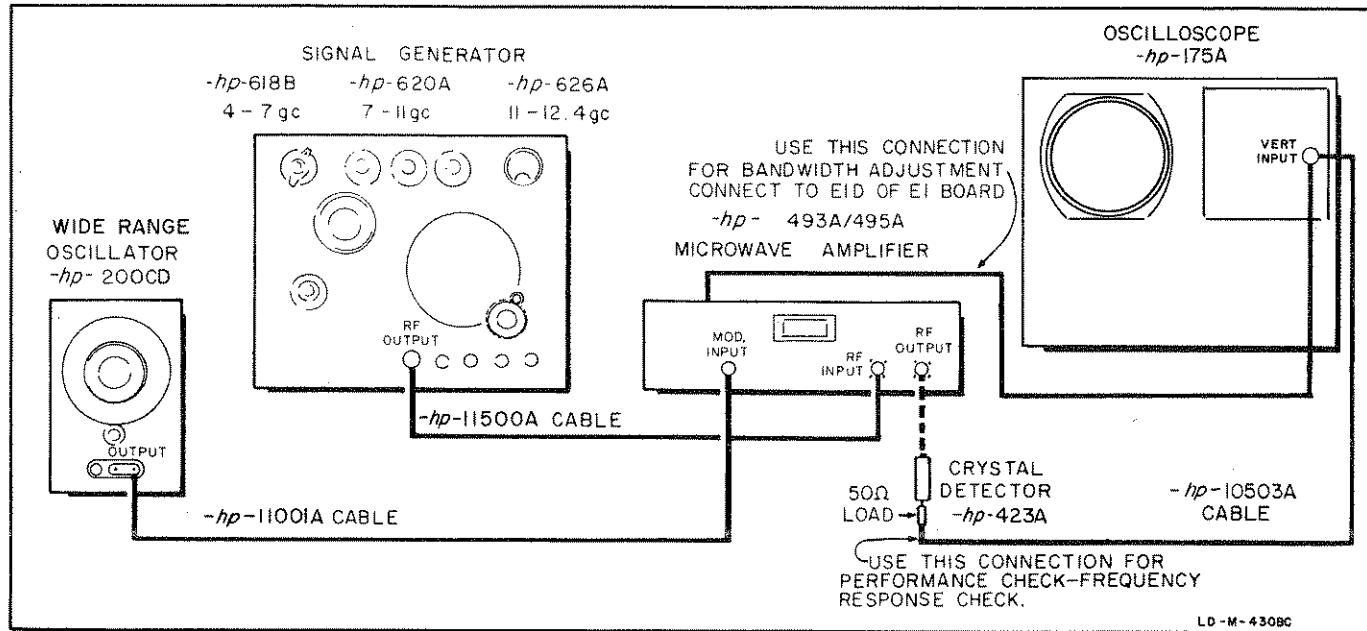

Figure 5-7. Bandwidth Setup
a. Connect the Model 493A as shown in figure 5-7.
- Connect the Model 493A as shown in figure 5-7.